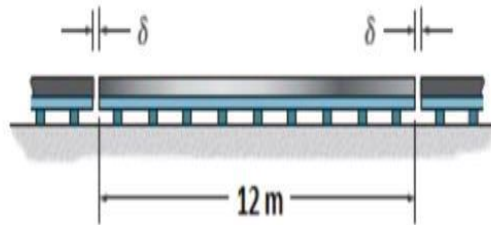

Fig 1c
- c) A 12 meters long A36 Steel ($E=200$ GPa and $\alpha=12 \times 10^{-6}/^\circ\text{C}$) rails on a track are laid with a small gap between them to allow for thermal expansion as in fig 1c. Determine the required gap δ so that the rails just touch one another when temperature is increased from $T_1 = -29^\circ\text{C}$ to $T_2 = 32^\circ\text{C}$. What would be the axial force if the temperature were to further rise to 43°C ? The Cross-sectional area of each rail is 0.0033 m^2 **07**